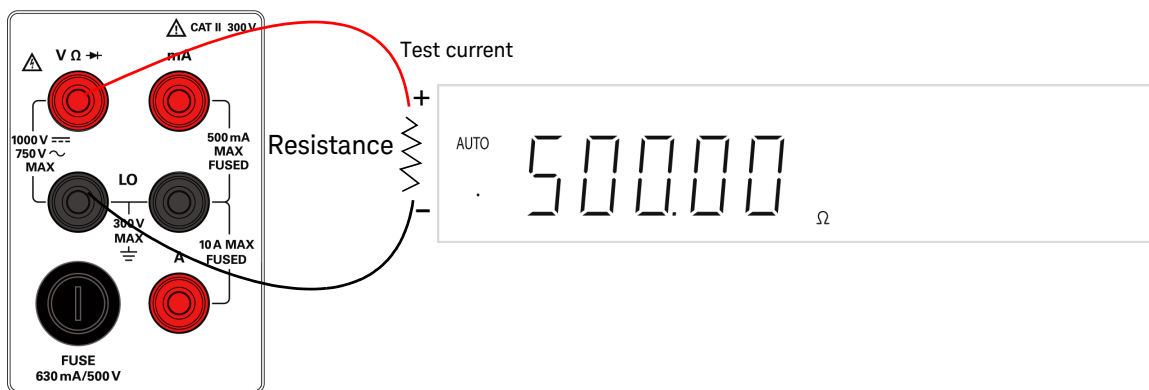

Figure 1-15 Resistance /continuity terminal connection and display
- 2 Connect the red and black test leads to the input terminal as shown in Figure 1-15.